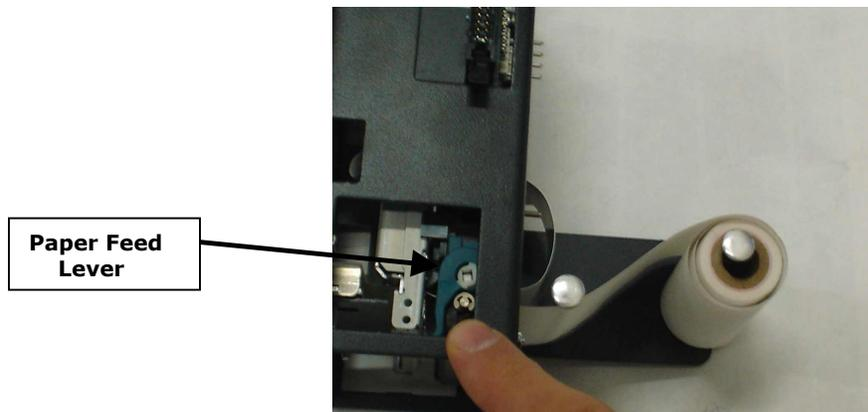

Figure P2: AC7074 Printer – Side View, with Paper
1. If there is paper remaining on the previous roll, it must be removed before proceeding. Move the "Paper Feed Lever" from the DOWN to the UP position (refer to Figure P2), and then pull out the remaining paper from the rear of the printer and discard the roll.